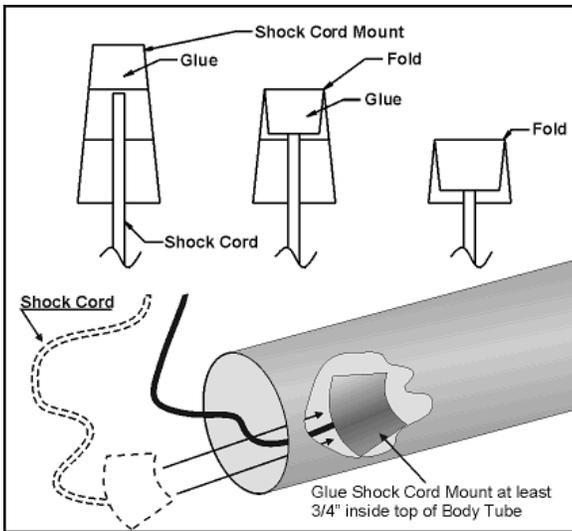

Figure 17
17. Cut out the Shock Cord Mount and glue the Shock Cord into it as shown at the top of **Figure 17** by applying glue as shown and folding the Shock Cord Mount over the Shock Cord twice, to trap it inside. Referring to the bottom of Figure 17, glue this Shock Cord assembly at least $\frac{3}{4}$ " inside the top of the Body Tube.